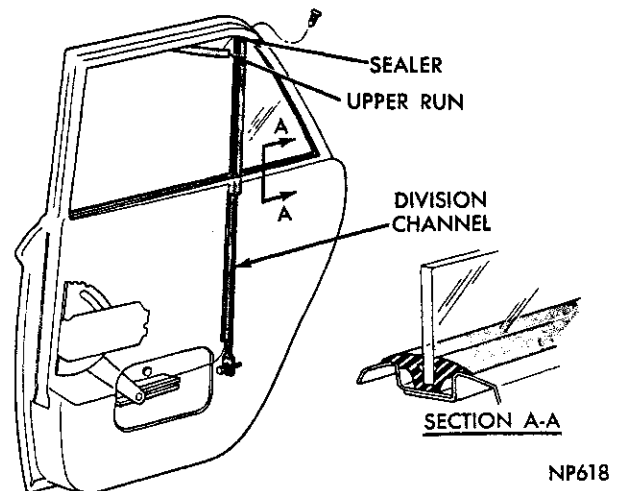

Fig. 35—Rear Door Stationary Glass—Sedan
- (1) Remove division channel attaching screws at upper and lower ends (Fig. 35) and remove channel.
- (2) Move glass and weatherstrip assembly forward and up out of window opening.
- (3) Inspect the weatherstrip.